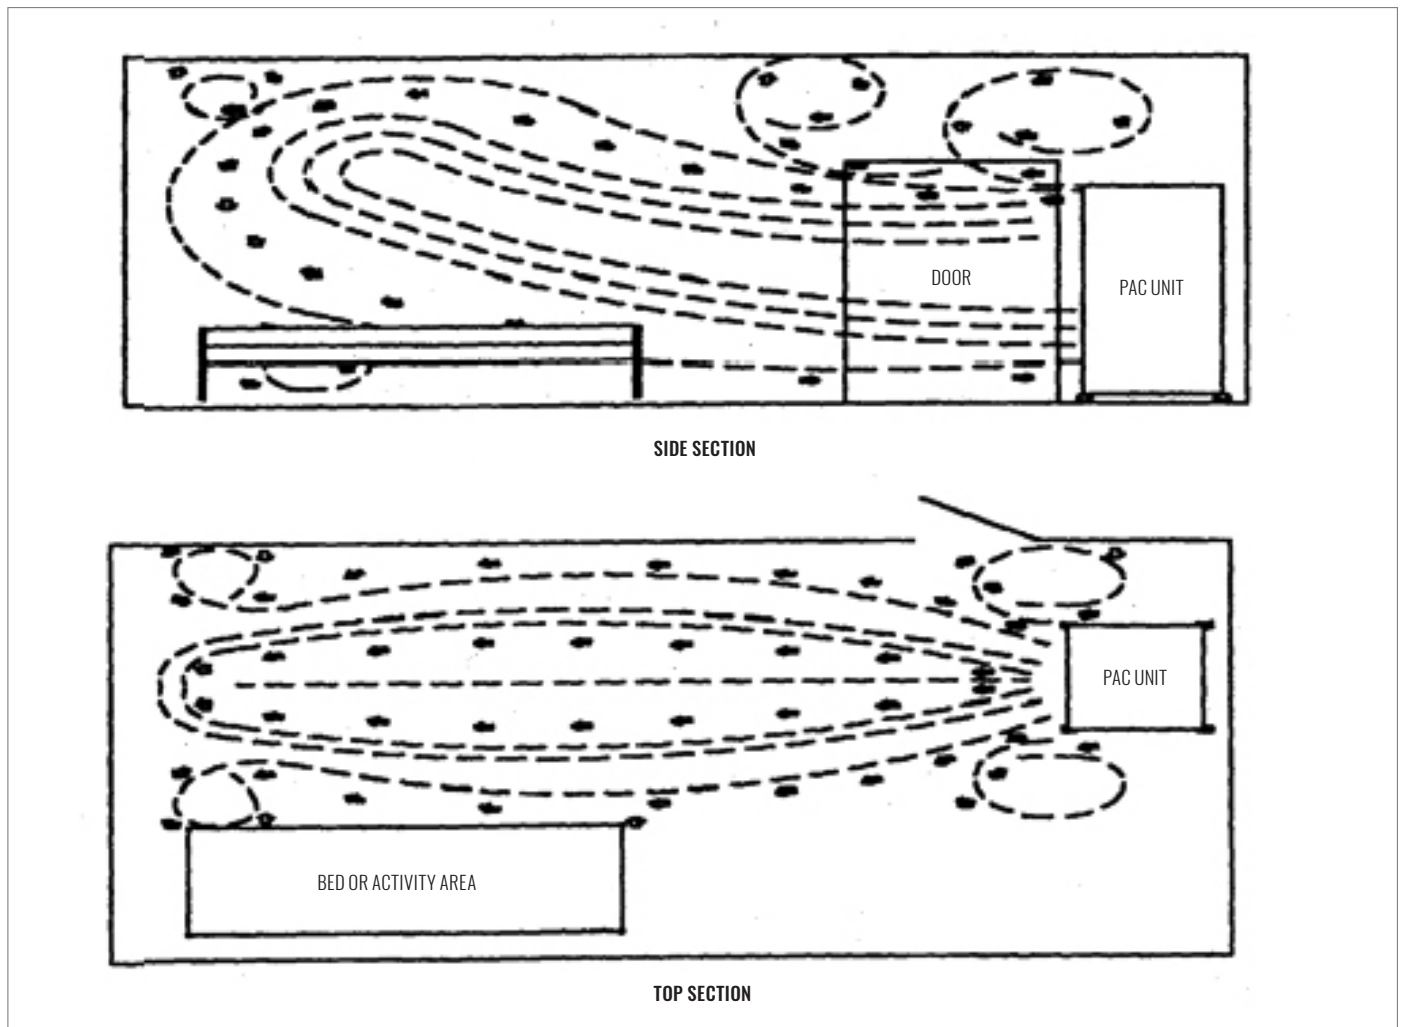

Figure 1: Recommended unit positioning within a patient room
2. Place the unit in its final operating position (see Figure 1 for recommended positioning).
3. For maximum recirculation efficiency, the unit should be placed between the entry door and the patient's bed or the activity area (see Figure 1 on next page). However, the unit will function effectively at other locations within the room.